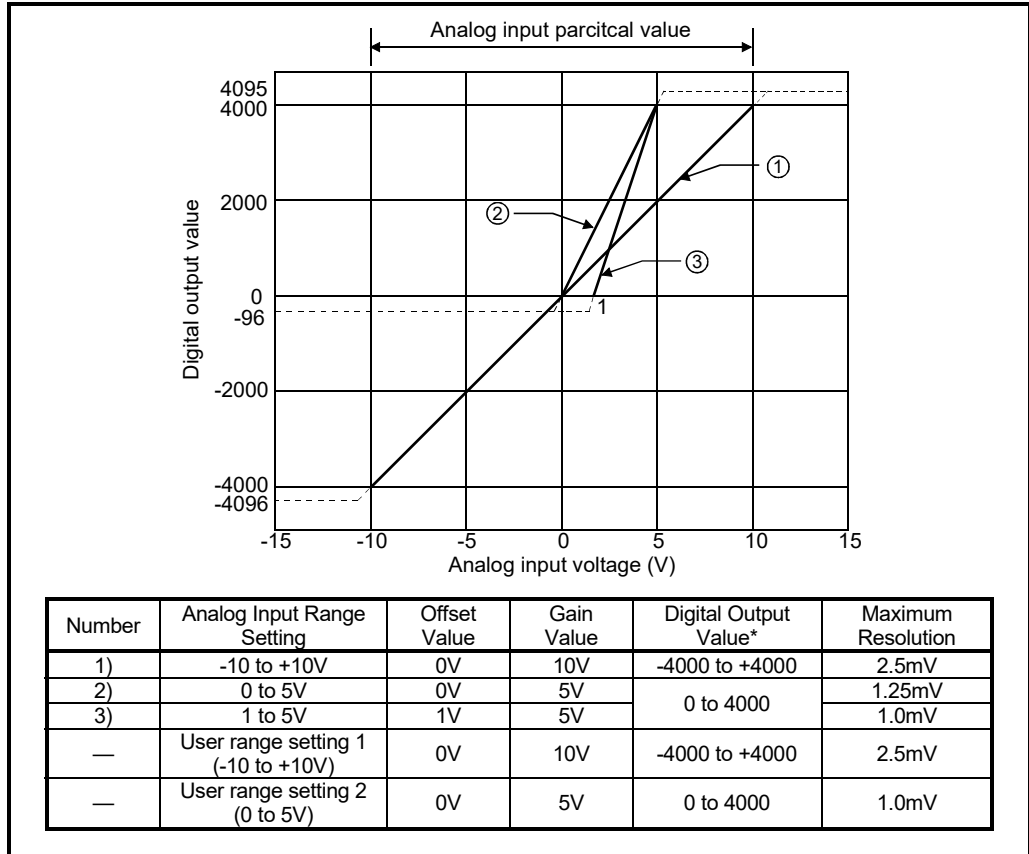

Fig. 3.1 Voltage Input Characteristic of the AJ65VBTCU-68ADVN
- (1) Do not input more than ±15V. The element may be damaged.
- (2) If the analog input provided corresponds to the digital output value* beyond its range, the digital output value is fixed to the maximum or minimum.
- (3) Within the analog input and digital output scopes of each input range, the maximum resolution and accuracy are within the performance specification range. Outside those scopes, however, they may not fall within the performance specification range. (Avoid using the dotted line part in Fig. 3.1.)
- (4) Set the offset and gain values of the user range setting within the range satisfying the following conditions.